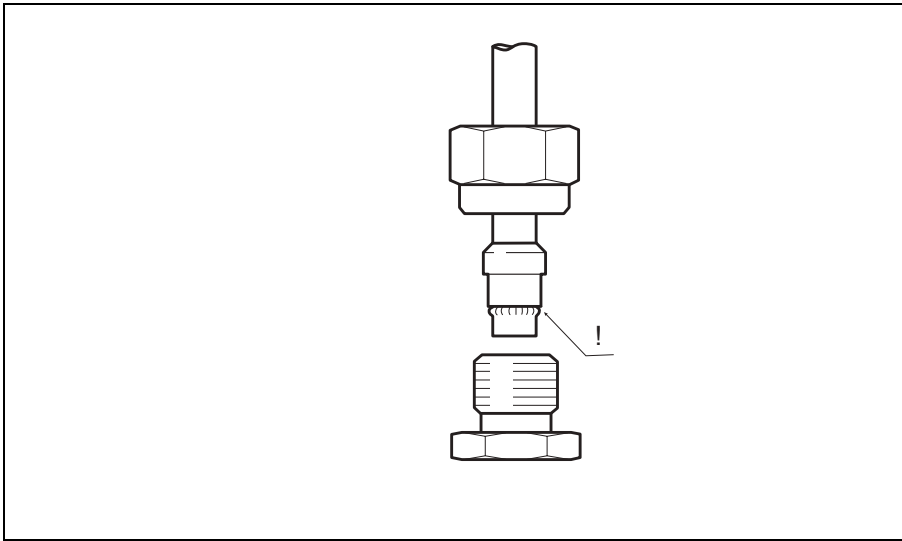

Figure 8.8 A visible swelling should have formed after tightening
6. After fitting, release the cap nut and check that the ring has pressed up a visible swelling in the area in front of it, see figure 8.8. If not, give it another short turn. It is of no importance whether the ring can still be turned.